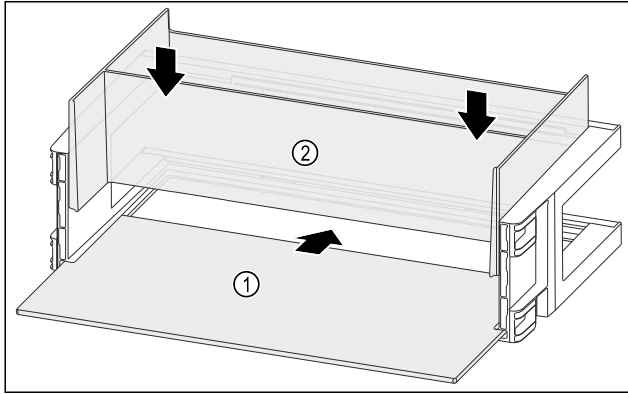

Fig. 112
- ▶ Push the shelf Fig. 112 (1) into the side cutouts.
- ▶ Insert the organizer Fig. 112 (2).